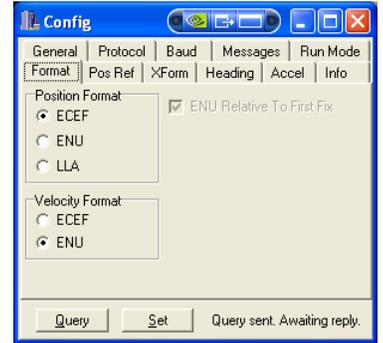

Figure 23. Format Tab
6.7 Format - The "Format" tab (Figure 23) is used to configure the output of the unit's position and velocity messages displayed on the NAV/GPS screen.